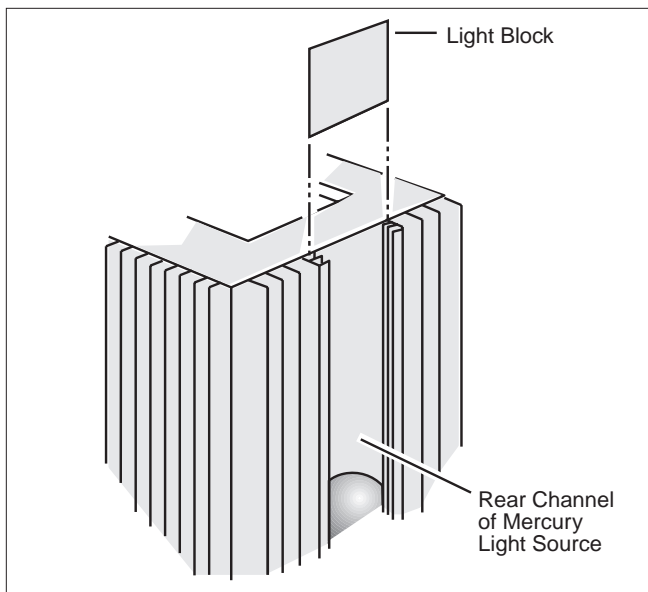

Figure 6. Installing the Light Block
1. The Light Source design allows simultaneous connection of two Light Aperture assemblies: one on the front and one on the back. If you are using only one Light Aperture and h/e Apparatus, install the Light Block (supplied with the Accessory Kit) in the mounting groove closest to the body of the housing on the back of the Light Source (see Figure 6).